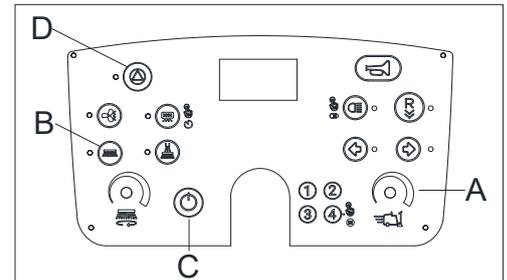

Figure 24
- Adjust the speed to the minimum using the machine speed dial (A, Figure 24).
- Press the start button (D, Figure 24) to enable cleaning.
- Press the side broom button (B, Figure 24) to lower the side broom to working height, press the accelerator pedal, and let the side broom run for 1 minute.
2. Press the power button (C, Figure 24) to turn off the power.